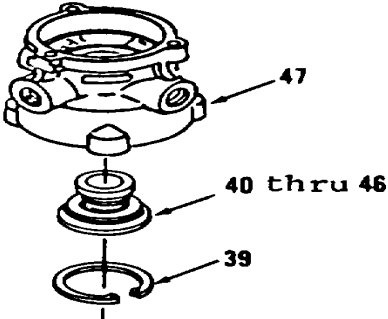

Figure 6-42.
- 18. Remove retaining ring (39) and items 40 thru 46 as an assembly from body (47, Figure 6-42).